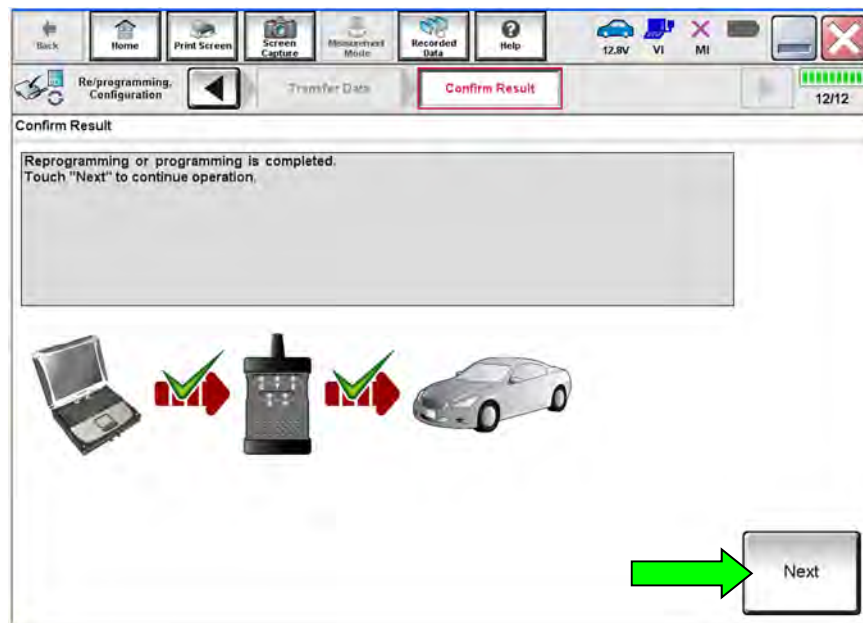

Figure 22
36. When the screen in Figure 22 displays, the reprogramming is complete.
- If the screen in Figure 22 does not display (indicating that reprogramming did not complete), refer to **Sonar Control Unit Recovery** on the next page.